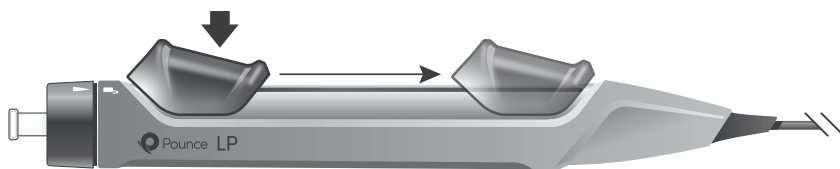

Figure 9
10. Depress slider button and advance to most distal position to completely sheath the funnel (see Figure 9).